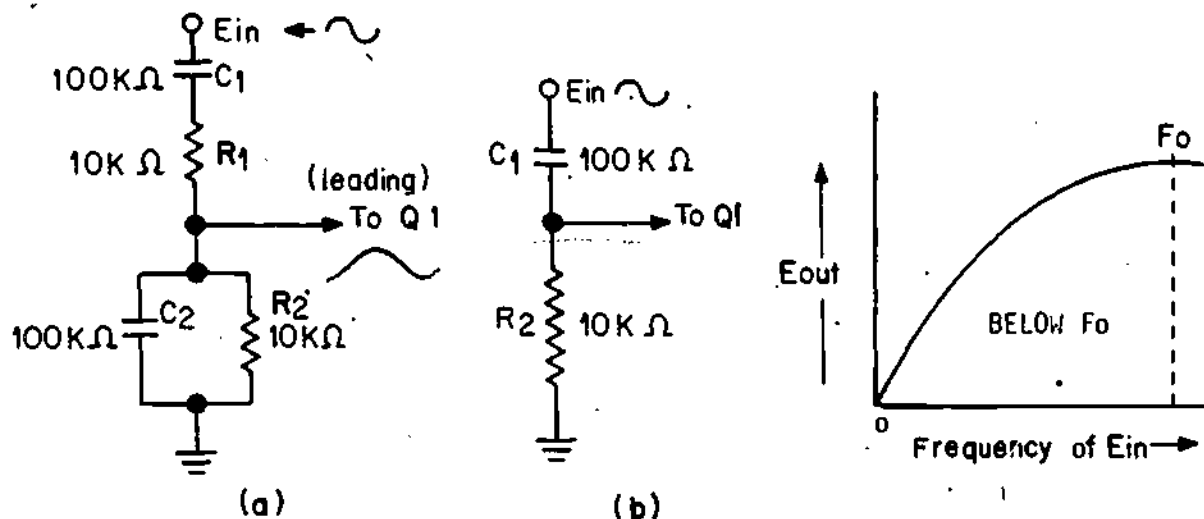

Figure 7
8. Figure 7 shows the frequency determining components of the Wien-bridge oscillator, an equivalent RC network and a diagram which shows the relationship of the output voltage compared with the output frequency below F_o .
At frequencies below the oscillator F_o , the output from the RC network will be less than maximum with a leading phase angle. This is primarily due to the high reactance of C_1 and can be understood by noting the approximate values on the diagram. Notice in 7(a) that the reactance of C_1 becomes larger than the resistance of R_1 . This makes the R-C circuit appear like the equivalent of Figure 7(b), where most of the voltage is dropped across C_1 .